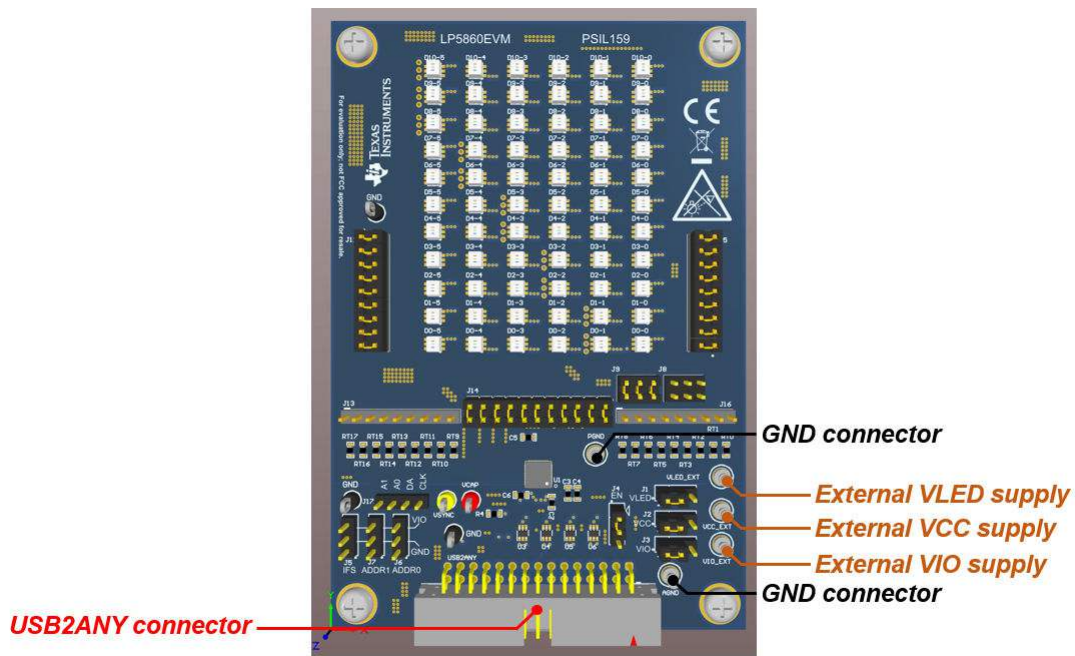

Figure 2-3. Key External Connectors
| Figure 2-3. Key External Connectors..... | 4 |
2. Connect a 5-V external power supply to the VLED_EXT terminal (see Figure 2-3) and connect the switching jumper (J1) to another side